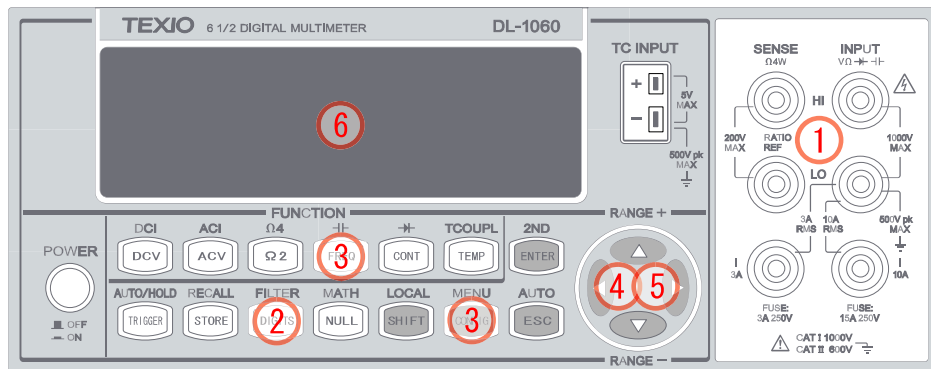

Figure 2-7
1. Connect the test leads to the terminals on the front panel as shown in **Figure 2-7**.